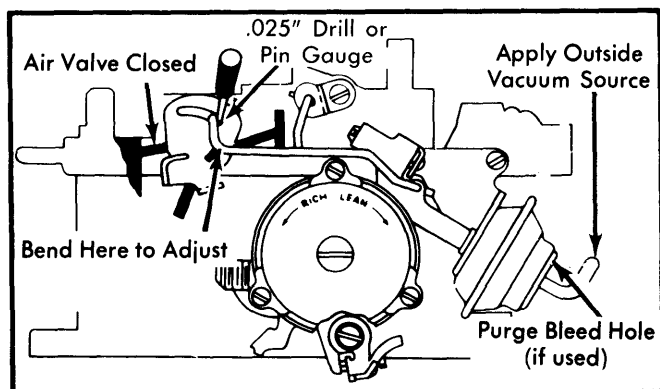

Fig. 6 Adjusting Air Valve Rod - Front
- 1) Using an outside vacuum source, seat primary (front) choke vacuum break diaphragm. Plug purge bleed hole (if equipped) with masking tape. Hole is found in end of diaphragm. See Fig. 6.